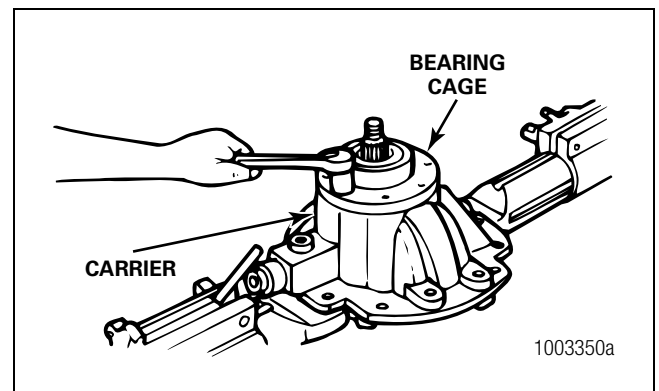

Figure 3.24
- Remove the capscrews and washers that hold the bearing cage in the carrier. Figure 3.24.